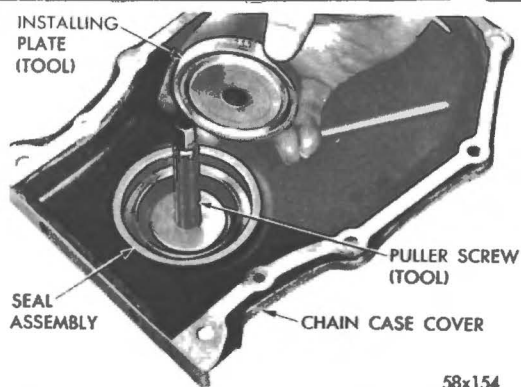

Fig. 17 Positioning Installer Plate on New Seal Tool CA-3506
(1) Insert the puller screw through the removing and installing plate so that the thin shoulder will be facing up.
(2) Insert the puller screw with plate through the seal opening (inside of chain case cover facing up).
(3) Place the seal in the cover opening, with neoprene down. Place the seal installing plate into the new seal, with protective recess toward lip of seal retainer. (Fig. 17).